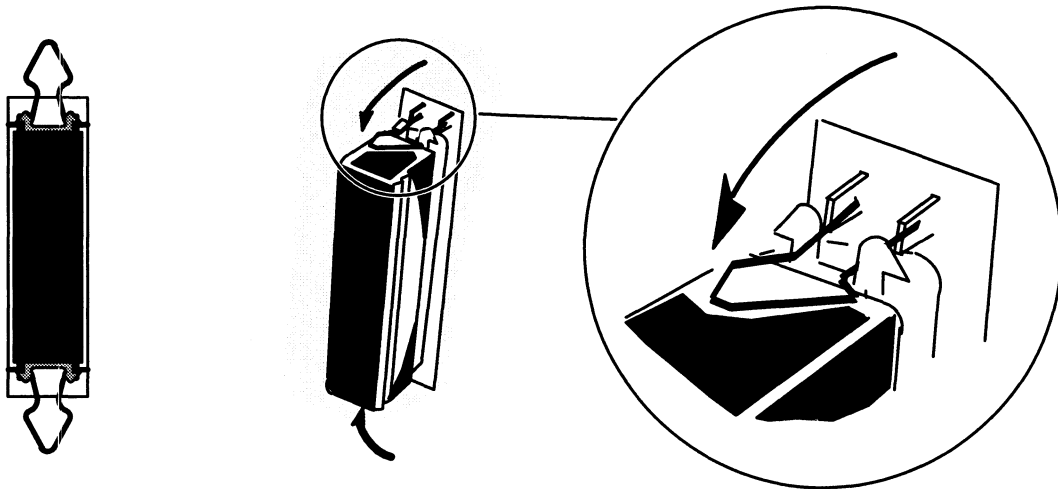

Figure 2-14 Securing a SCSI Bus Terminator
- Push the spring clips attached to the SCSI connector straight down or straight up into the brackets on the terminator plug, as shown in Figure 2-14. Your vertical pressure will push the clips into place; do not squeeze or pull the clips out of shape.
- Push the spring clips attached to the SCSI 1 connector straight down or straight up into the brackets on the terminator plug, as shown in Figure 2-14. Your vertical pressure will push the clips into place; do not squeeze or pull the clips out of shape.